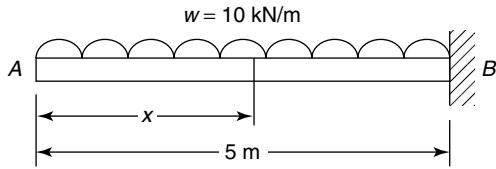

Figure 6.35
**Problem 6.** Determine expressions for the bending moment and shearing force distributions for the cantilever shown in Figure 6.35, which is subjected to a uniformly distributed load, acting